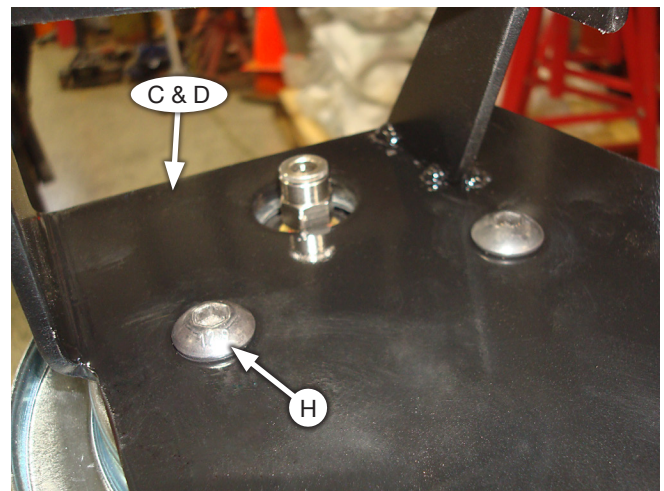

Fig. 9
2. Set the upper brackets (C and D) onto the air spring assemblies making sure the large hole is aligned with the fitting. Install the bracket using the 3/8" button head cap screws (H) and torque to no more than 20 lbs.-ft. (27Nm) (Fig. 9).